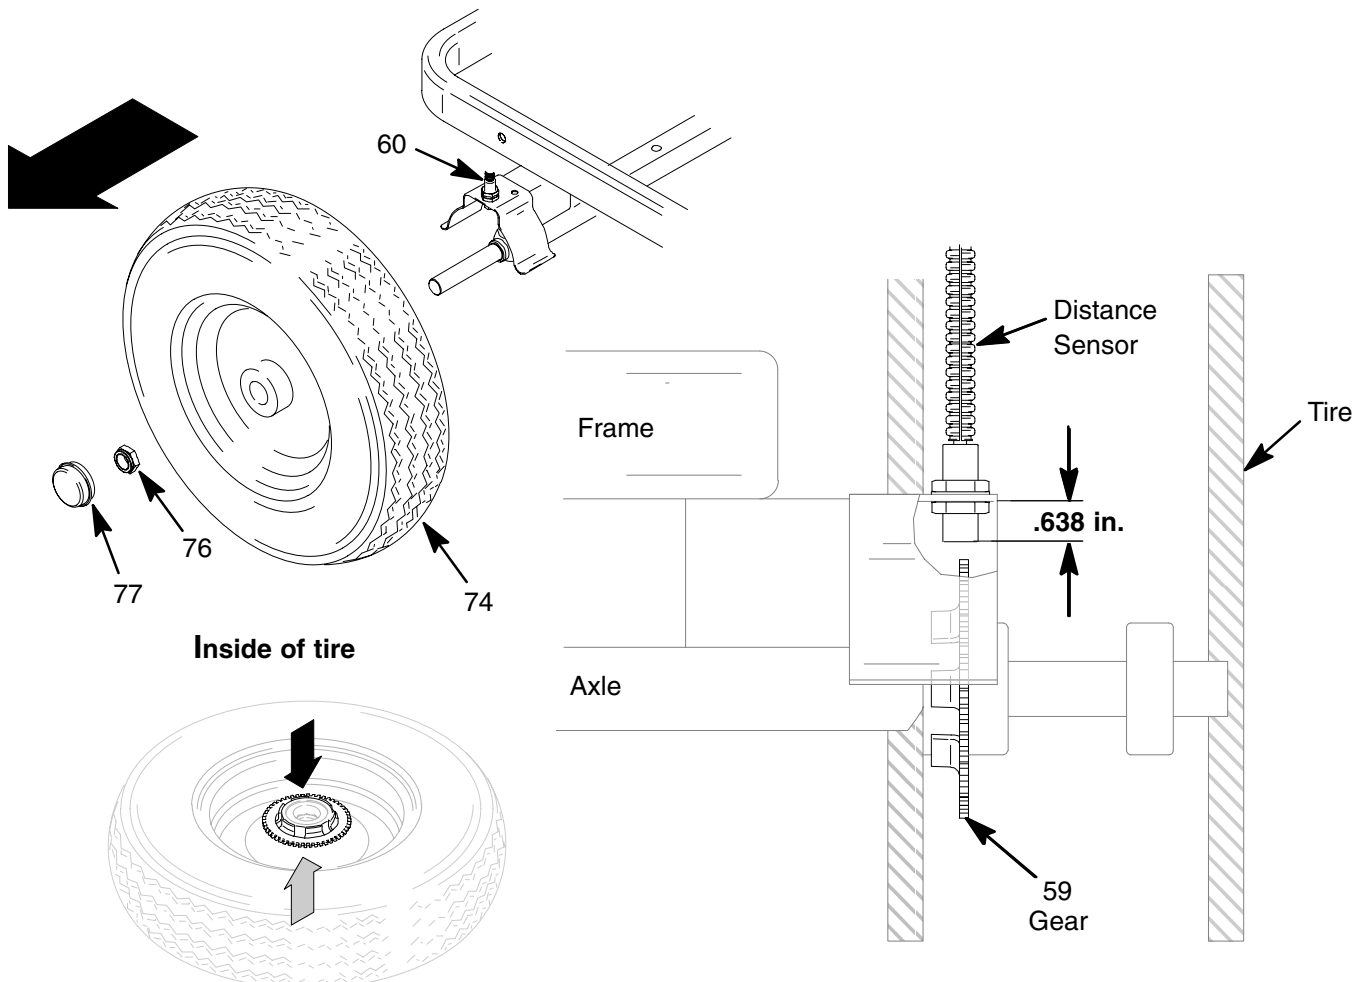

Fig. 3
3. Fig. 3. Remove dust cap (77) from wheel. Remove nut (76).
4. Remove wheel (74) from LineLazer.
5. Align gear (59) with sensor.
6. Install wheel (74) on LineLazer.
7. Install nut (76) until tight, then back off 1/4 turn. Install dust cap (77) on wheel.